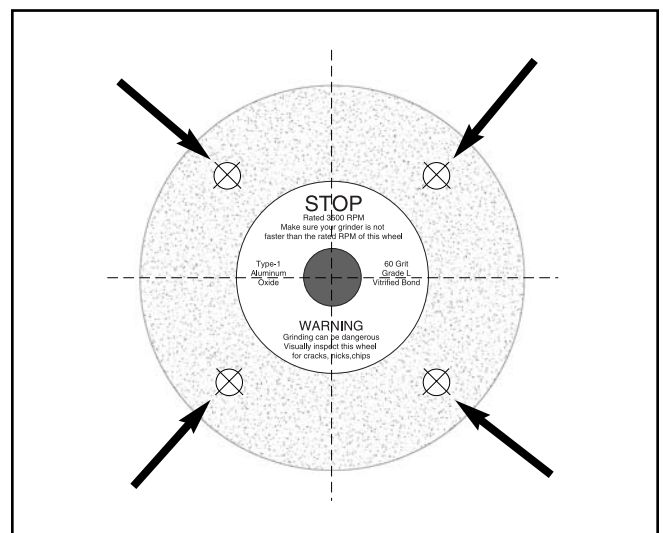

Figure 12. Ring test tapping locations.
3. At the spots shown in **Figure 12**, gently tap the wheel with a light non-metallic device such as the handle of a screwdriver or a wooden mallet.